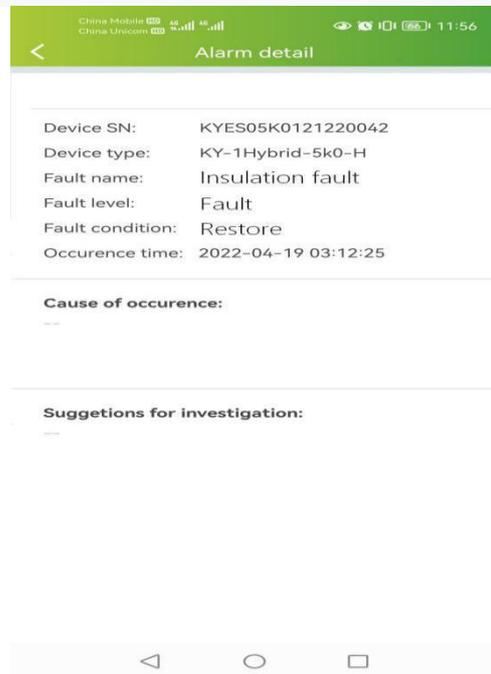

Figure 2
3. Phone APP remote monitoring error notification; As shown in Figure 2